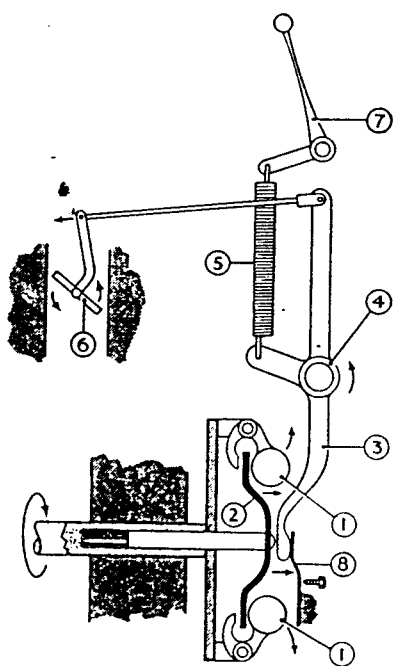

FIG. 2
## Action of Governor—Fig. 2.
Fig. 2, shows a diagrammatic view of the governor, from which it can be seen that as the assembly revolves, centrifugal force causes the bobweights (1) to fly out developing a secondary horizontal force acting on the governor lever (3) through the governor cup (2). This force is always proportional to the governor speed, which in turn is proportional to the engine speed :